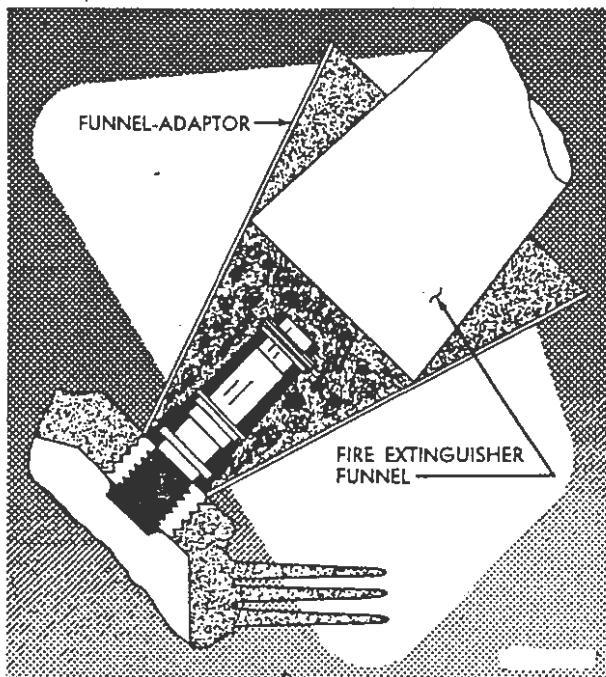

Figure 5-45. Removing Spark Plug Frozen to Bushing
e. Removal of seized spark plugs in the cylinder may be accomplished by application of liquid carbon dioxide. Conical metal funnel adaptor is fabricated which has a hole at the apex just large enough to accommodate the funnel of a CO₂ bottle. (See figure 5-45.) When a seized spark plug cannot be removed by normal means, the funnel adaptor is placed over and around the spark plug. Place the funnel of the CO₂ bottle inside the funnel adaptor and release the carbon dioxide to chill and contract the spark plug. Break the spark plug loose with a wrench. A warm cylinder head at the time the carbon dioxide is applied will aid in the removal of an excessively seized spark plug.